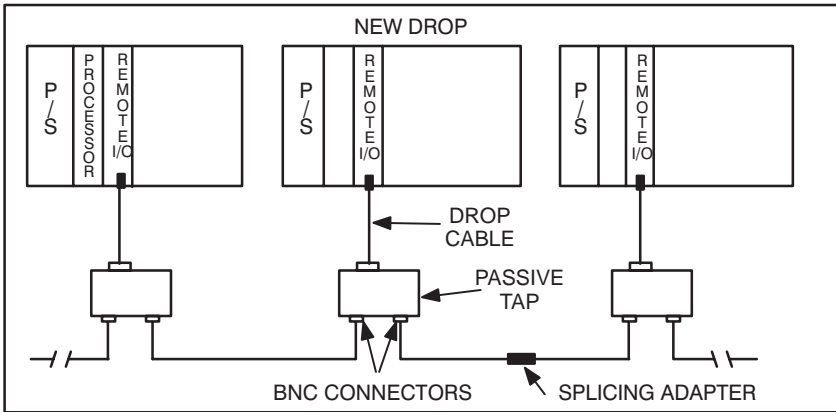

Figure 3.27 - Adding an Intermediate Rack Drop to the Remote I/O Network (Coax)
- c.) For rack drops, connect the other ends of the new cable segments with a tap attached to the new drop as shown in figure 3.27. For Head drops, connect the ends of the new cable segments to a BNC Tee Adapter. Connect the Tee Adapter directly to the Remote I/O Head or Remote Drive Interface Head.